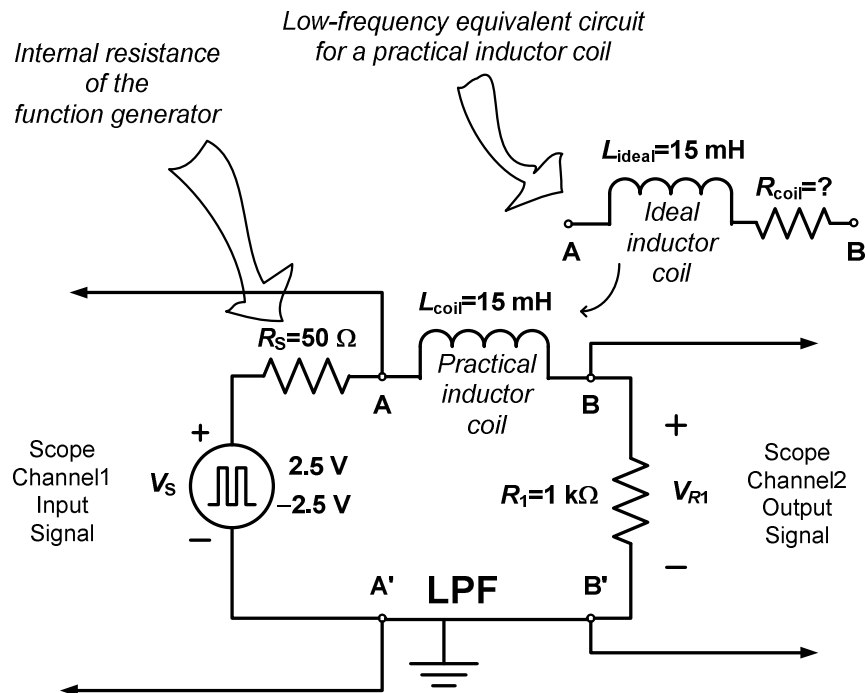

Figure 1. First-order RL circuit connected like a Low-Pass Filter (LPF). (Note that terminals A' and B' are the same.)
Pre-lab Assignment 1.a: A first-order inductive circuit is excited by a periodic pulse train as shown in Fig. 1. The values of the elements are given by $R_1=1\text{ k}\Omega$ and $L_{\text{coil}}=15\text{ mH}$ respectively. Assuming both the source and the inductor to be ideal (i.e., $R_S = 0$ and $R_{\text{coil}} = 0$), calculate the time constant (designate it with $\tau_{\text{pre-lab}}$ or τ_p) of this circuit. Approximately how long does it take for the inductor of this circuit to fully charge or discharge under pulse excitations? (Fully charge or discharge means the time it takes for the inductor current to reach approximately 99% of its final value.)
Lab Experiment 1.a: Construct the first-order RL circuit shown in Fig. 1 using $R_1=1\text{ k}\Omega$ and $L_{\text{coil}}=15\text{ mH}$. Do the following:
- Using the digital LCR meter, measure and record the actual values of R_1 and L_{coil} you use to build your circuit. Note that a practical inductor coil is not an ideal inductor. For low-frequency applications, a practical inductor can be represented in terms of an equivalent circuit model which consists of an ideal inductor with value $L_{\text{ideal}}=15\text{ mH}$ in series with the internal resistance R_{coil} of the inductor (see Fig. 1). Using the LCR meter, measure and record the internal resistance, R_{coil} , of the inductor coil.